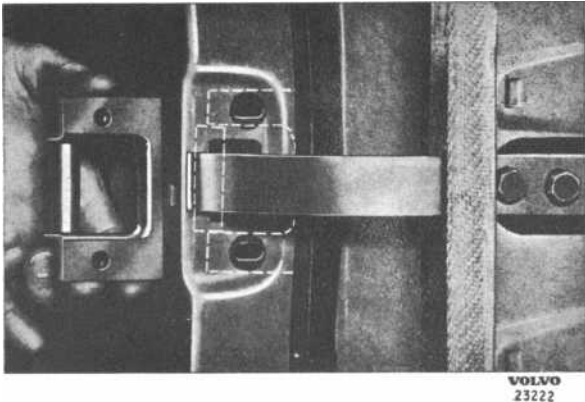

Fig. 14. Door check
1. Remove the door check, see Fig. 14. The attaching bolts for this are accessible after the side insulation material on the body has been removed. The door check can also be removed by unscrewing the guide roller and pulling it off. In order to get at the guide roller, the door upholstery must be removed see under "Removing the door handle and upholstery".